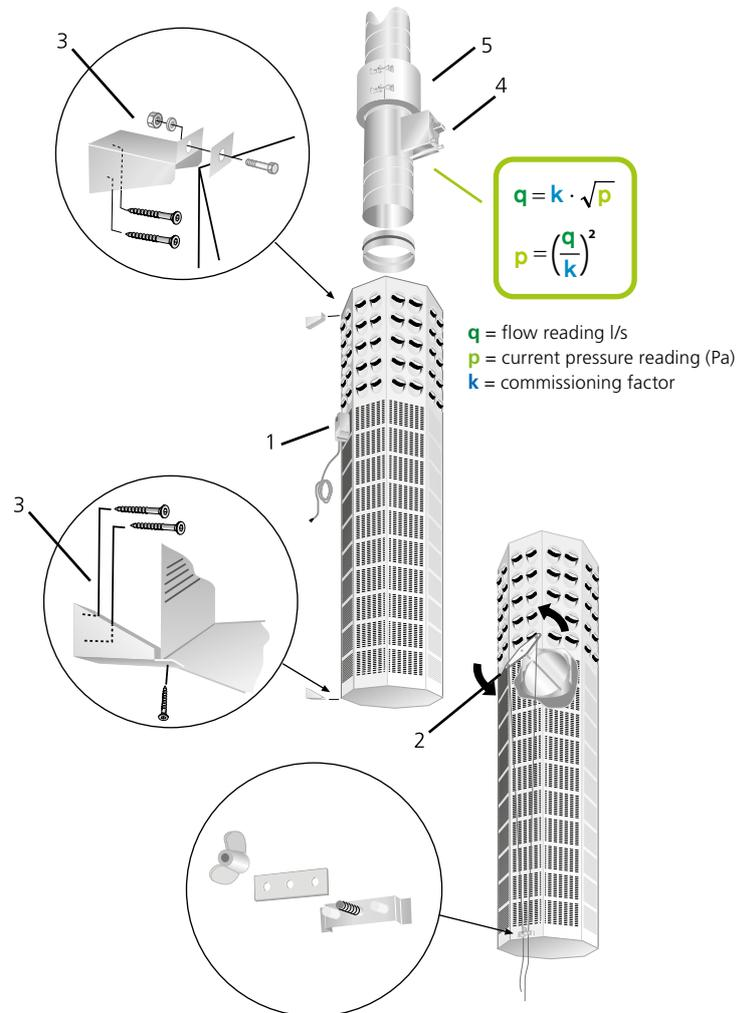

Figure 1. Installation. Commissioning.
Adjustable measurement unit (4) for the commissioning of airflows. See figure 1.
Clamp (5) used for facilitating installation and removal of units. See figure 1.
Mounting brackets (3) are supplied with the diffuser. These are to be fastened to the wall and then to the BOC. See Figure 1.
The airflow is adjusted with an adjustable measurement unit (4) which is placed in the duct upstream of the BOC. See Figure 1. N.B.: Details 4 and 5 are not included at delivery.
Key to Figure 1: